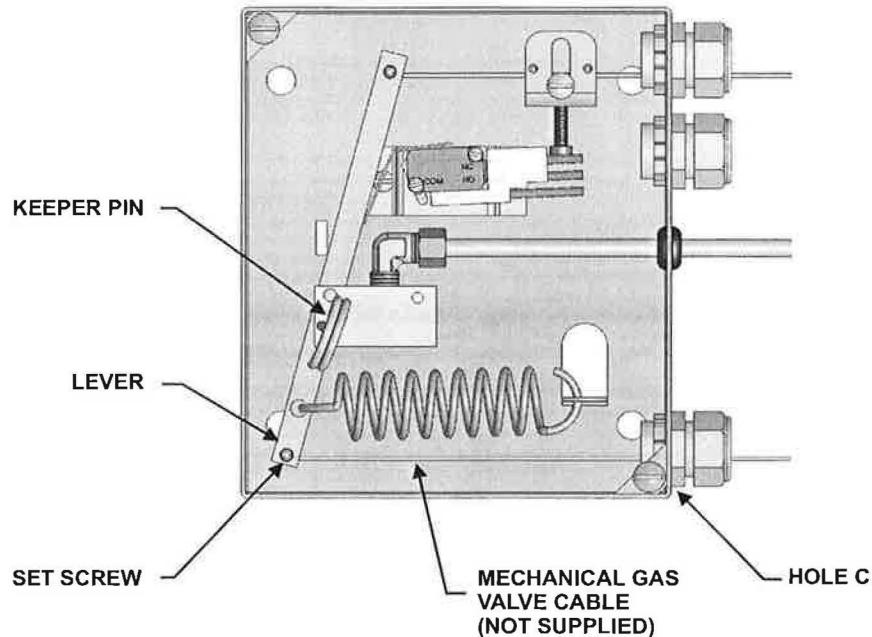

Figure 4-72. Cabling Mechanical Gas Valve Cable in the A+ Control Box
The A+ Control Box can close one mechanical gas valve upon actuation by relaxing the 1/16-inch (2 mm) stainless steel cable installed from the gas valve through conduit and Corner Pulleys to the hole on the valve body lever, next to the spring connection (Figure 4-72).
3. Connect 1/2-inch (13 mm) EMT to hole "C" on the side of the A+ Control Box (Figure 4-72).